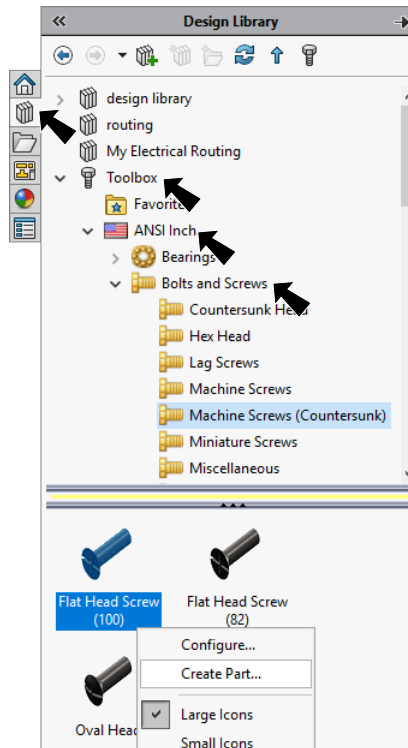

Fig. 2
Step 1. Click the **Design Library** tab  in the Task Pane, **Fig. 2**.
Step 3. In the lower pane, **right click Flat Head Screw (100)** and click **Create Part**, **Fig. 2**.